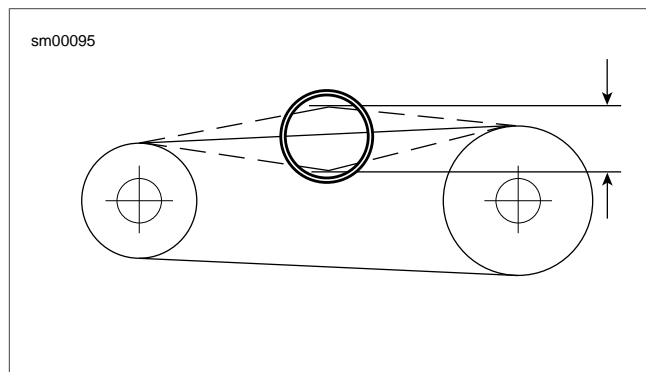

Figure 1-32. Measuring Primary Chain Free Play
2. See Figure 1-32. Check primary chain tension by measuring vertical free play.